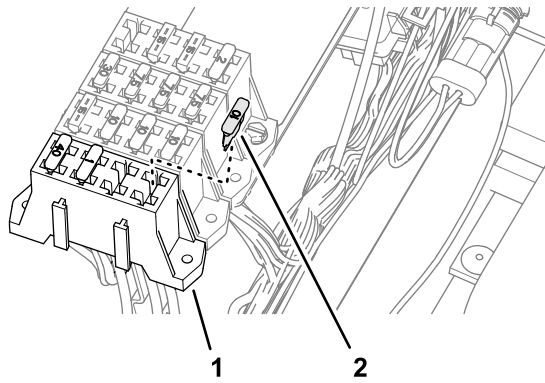

Figure 54
5. Insert the fuse (10 A) into the fuse-block socket (Figure 54) for the options power circuit that you used in step 4.